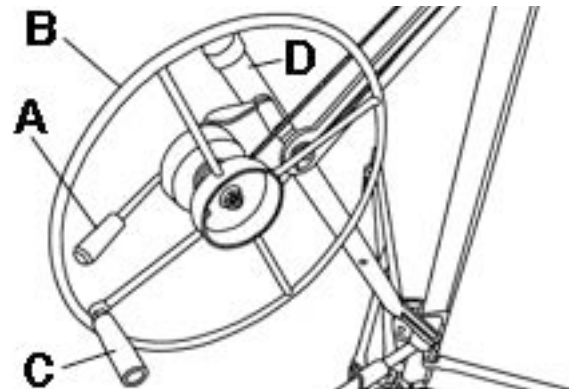

FIGURE 11
A spring loaded brake arm (A) Fig.11 holds the cradle at whatever height you raise it by cranking the winch wheel (B). To lower the cradle, control the backward rotation of the winch by grasping the winch wheel handle (C) and carefully raise the brake arm to release the brake. To lock the winch in position, lower the brake arm.
Cranking the winch using the winch handle (C) Fig.11 coils or uncoils the cable that raises or lowers the telescopic posts and the cradle. Grasp the post (D) for leverage when cranking the winch.